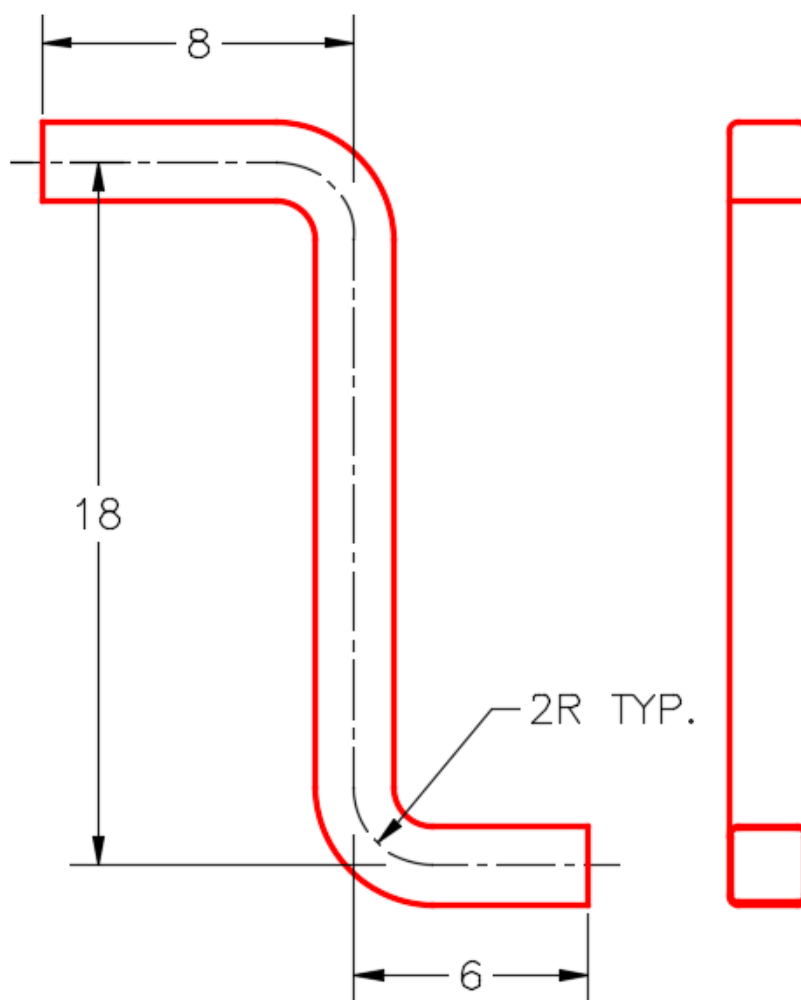
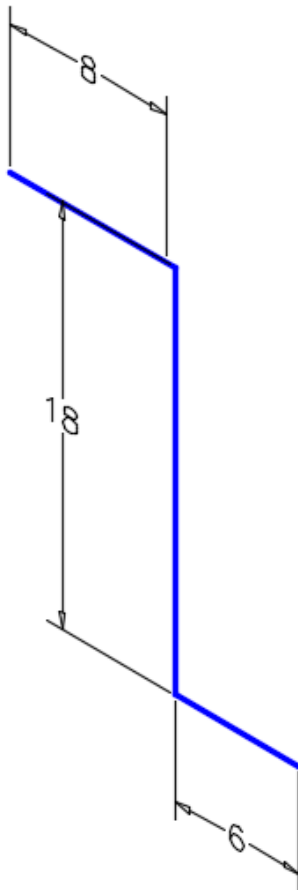

Figure Step 2A
Figure Step 6A
(Figure Step 2A, 2B, and 2C)
Step 6 Using Figure Step 2A as a reference, enable Ortho mode, enter the PLINE command, as shown below, to draw a pline on the front UCS. Start the pline at 0,0,0. (Figure Step 6A and 6B)